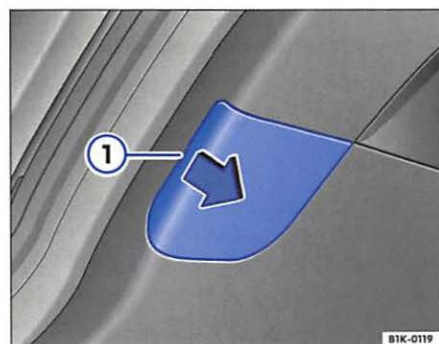

Fig. 42 Remove covering
- Place the flat blade of the screwdriver into the recess $\Rightarrow$ fig. 42 ①.